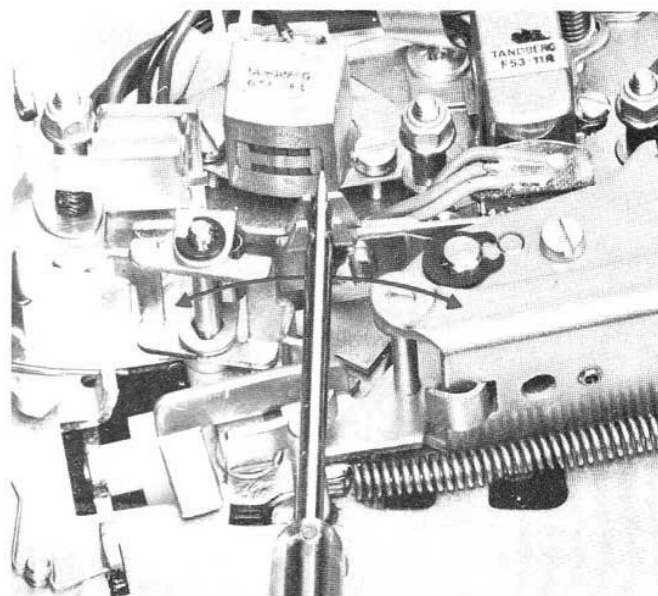

Fig. 3.4. Bias head horizontal adjustment.
Connect an AC voltmeter across each half of the record head and set the recorder for stereo recording. Insert a screwdriver in groove (I), see fig. 2.7 and fig. 3.4, and pull the bias head to the right.